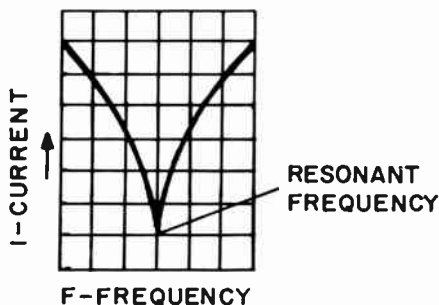

FIG. 4-40. THE PARALLEL-RESONANCE CURVE.
**THE PARALLEL RESONANCE CURVE.** The resonance curve of a parallel resonant circuit is illustrated in Fig. 4-40. The vertical scale represents the amount of line current flowing in the circuit. The horizontal direction represents the different generator frequencies. As the frequency of the generator is varied above and below the resonant frequency, the current will vary in the manner indicated. Notice that the current reaches a minimum value only at resonance, and increases in value at either side of resonance.